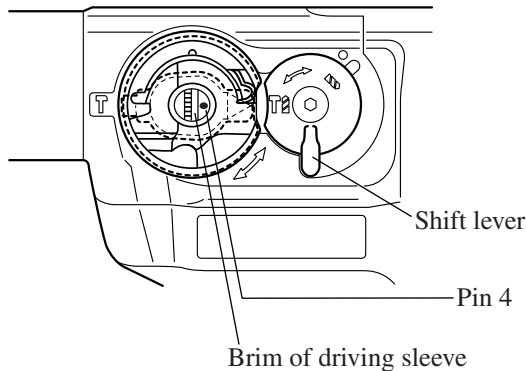
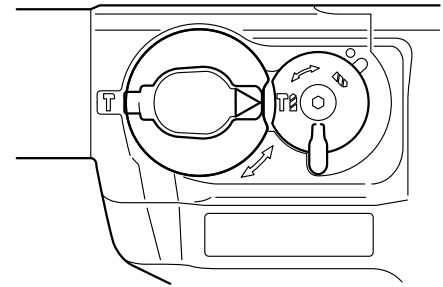

Fig. 4
Fig. 4A
(2) Assemble the above change lever complete so that the pin 4 comes to the right side of brim of driving sleeve (shift lever complete side) as illustrated in Fig. 4. Face the arrow of change lever complete to shift lever complete and assemble the change lever complete firmly to the machine as illustrated in Fig. 4A.